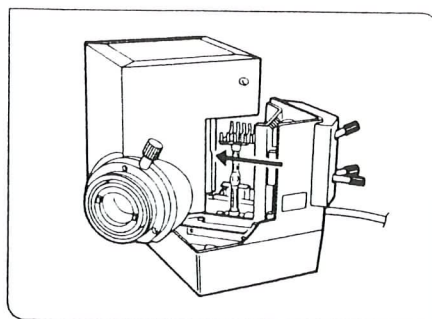

Fig. 8
3. Reattach the socket to the lamp housing by reversing the procedure outlined in ④-1) above. (Fig. 8)